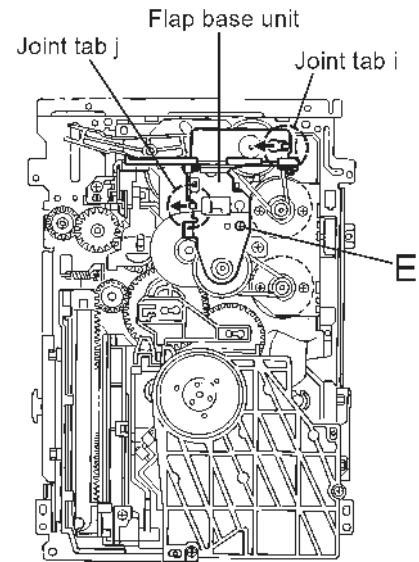

Fig.18
3.1.5 Removing the flap base unit and the gear base unit (See Fig.18 and 19)
*Prior to performing the following procedures, remove the servo control board, the top cover, the tray unit, the side unit (L) and the side unit (R).